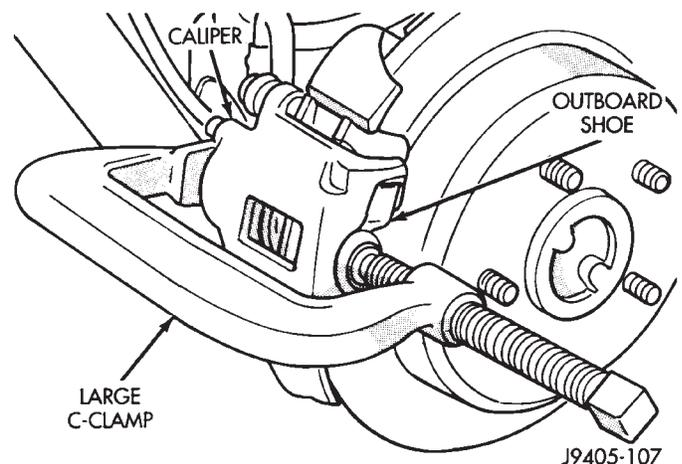

Fig. 36 Bottoming Caliper Piston
- (1) Raise vehicle and remove tire and wheel assemblies.
- (2) Press caliper piston into caliper bore with C-clamp (Fig. 36).